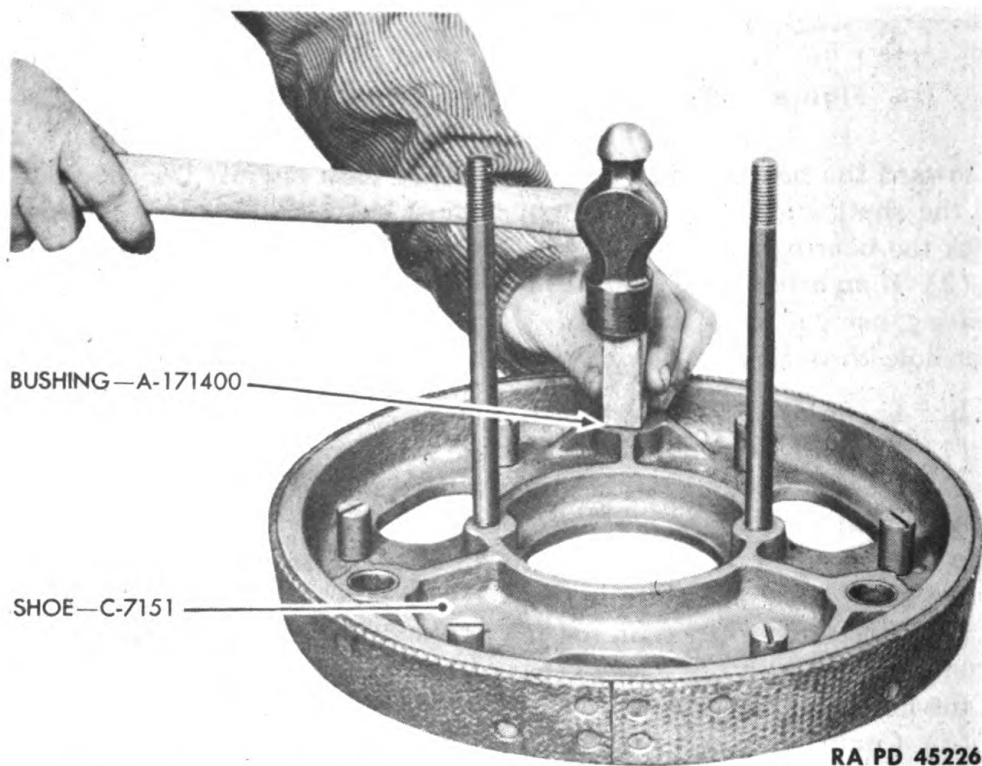

Figure 187—Installing Bushing in Elevating Clutch Shoe
d. Replace Worn Brake Drum Bushings (fig. 187).
(1) There are three self-lubricating bushings in the elevating clutch shoe. If worn, replace.
(2) Drive the bushing out with a $1\frac{3}{16}$ -inch diameter by 6-inch steel bar and a hammer.
(3) Clean the bushing opening in elevating clutch shoe with SOLVENT, dry-cleaning. Coat the outside surface of the new bushing with
TALLOW, mutton, refined, or LEAD, white. Drive bushing into place with the bushing face flush with the face of the boss on the elevating clutch shoe (fig. 187).